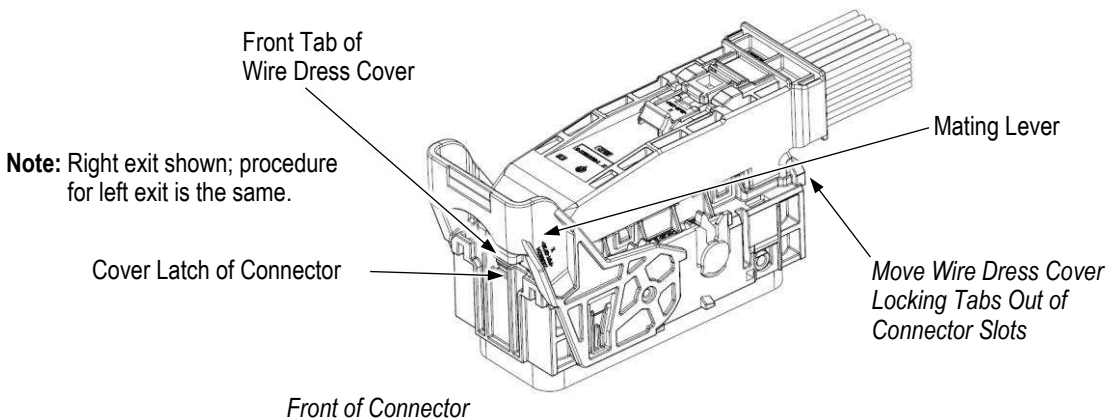

Figure 7
2. Press and hold the front tab of the wire dress cover (so that it releases from the cover latch of the connector), then lift the front of the wire dress cover until it clears the mating lever. See Figure 7.